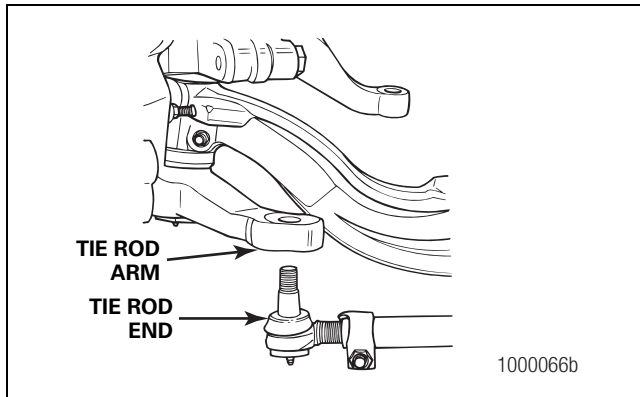

Figure 6.46
3. Clean and dry the tie rod end taper and the tie rod arm taper hole. Figure 6.46.